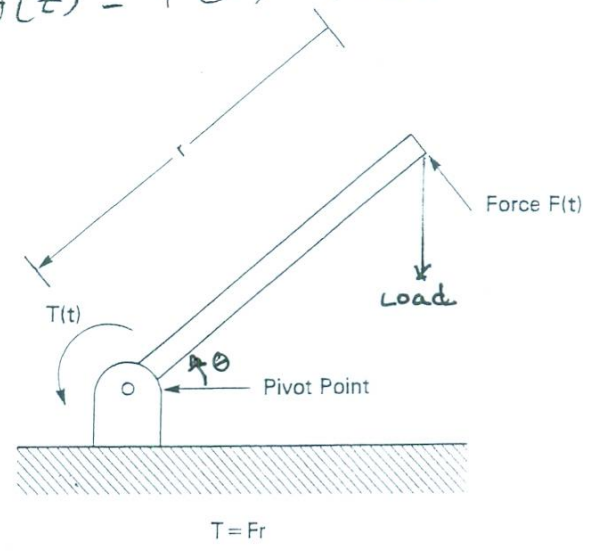

Figure 3.2.6 Torque generated by a force acting at a distance.
8. Consider Klafter figure 3.2.6. Compute the torque to balance a 5-lb load mounted on the end of the bar. How does the torque change with the length of the bar L and the angle θ with respect to the horizontal :
Figure 3.2.6 illustrates another way of defining torque—as the product of force and the perpendicular distance from the pivot to the force vector. The applied force $F(t)$ can cause the arm to rotate in either a clockwise or a counter-clockwise direction. Consider, for example, the case of a robotic manipulator carrying a load against the force of gravity. Figure 3.2.6 is an ideal model for calculating the torque which must be produced by a rotary joint to hold the object at rest. In the situation where multiple forces are applied to a lever each at a known distance from the pivot point, a resultant torque may be calculated by summing all the torques with the appropriate signs.